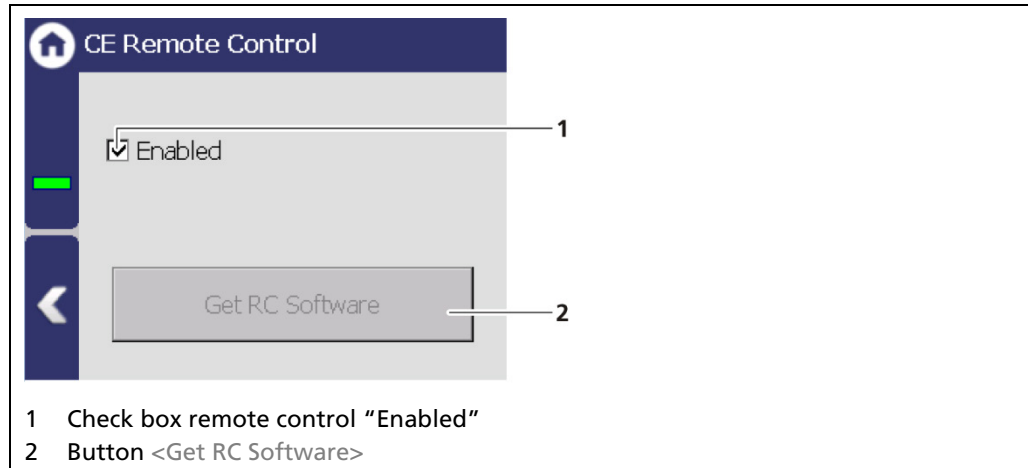

Fig. 36 CE Remote Control
1. Click on the selection arrow (Fig. 36, item 1) and select a language.
- ▶ An information window "Reboot" (Fig. 36, item 2) appears.